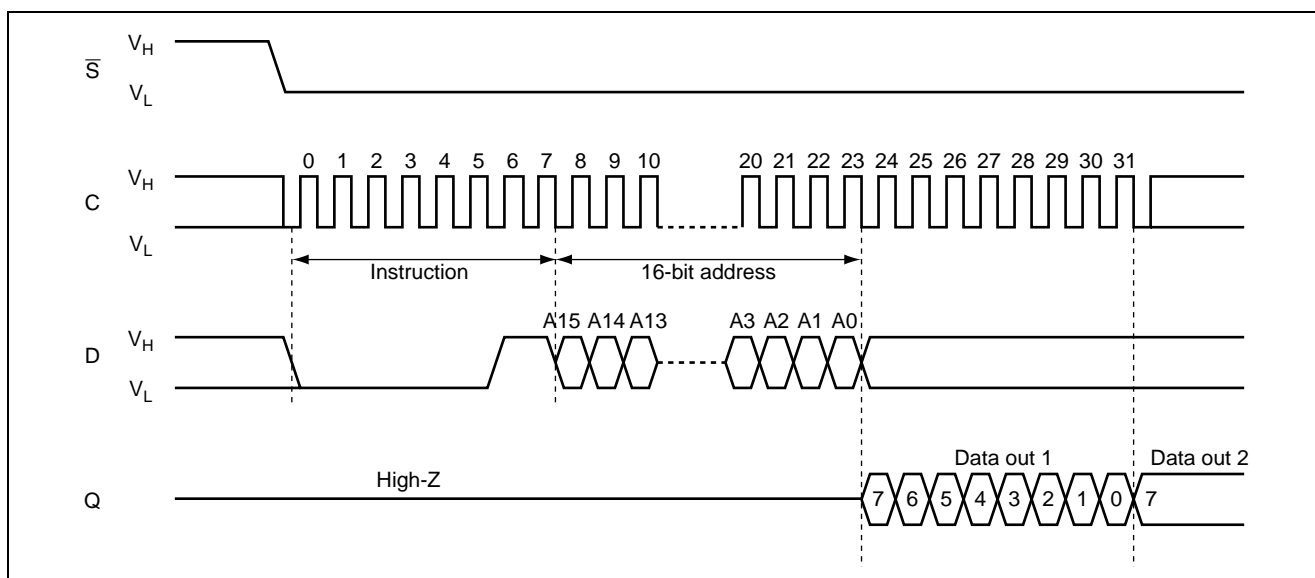

Figure 6 Read from Memory Array (READ) Sequence
As shown in figure 6, to send this instruction to the device, Chip Select (\overline{S}) is first driven low. The bits of the instruction and address bytes are then shifted in as Serial Data Input (D). The address is loaded into an internal address register, and the byte of data at that address is shifted out as Serial Data Output (Q).